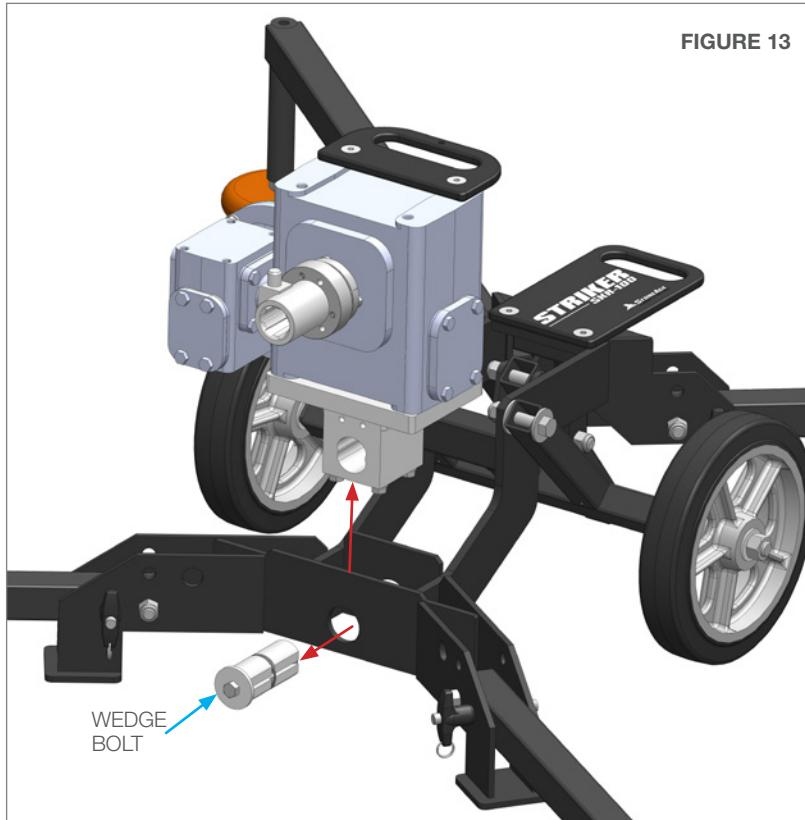

FIGURE 13
13. Remove the Wedge Bolt from the mounting plate and lift the Gearbox Assembly out of the cart. (**Figure 13**)